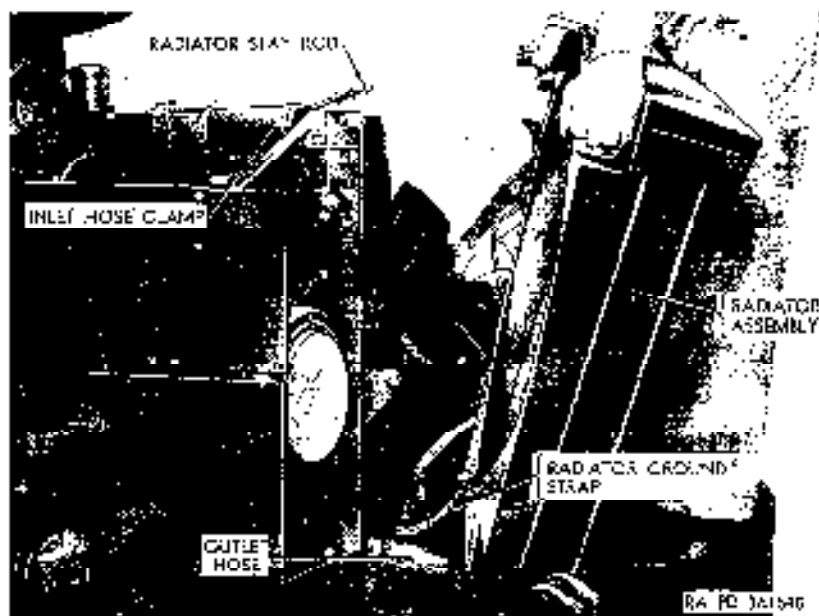

Figure 166. Lifting off radiator assembly.
e. Thermostats. Two metal bellows type thermostats (fig. 166), which control the temperature of the coolant in the cooling system
- (6) Pull thermostats (fig. 166) from housing.
- (1) Clean gasket surfaces on thermostat housing (fig. 166) and water outlet header, and install new gasket on front of header using a liquid-type gasket cement.
- (2) Make sure that rubber seals are in place on the two thermostats and place thermostats in housing.